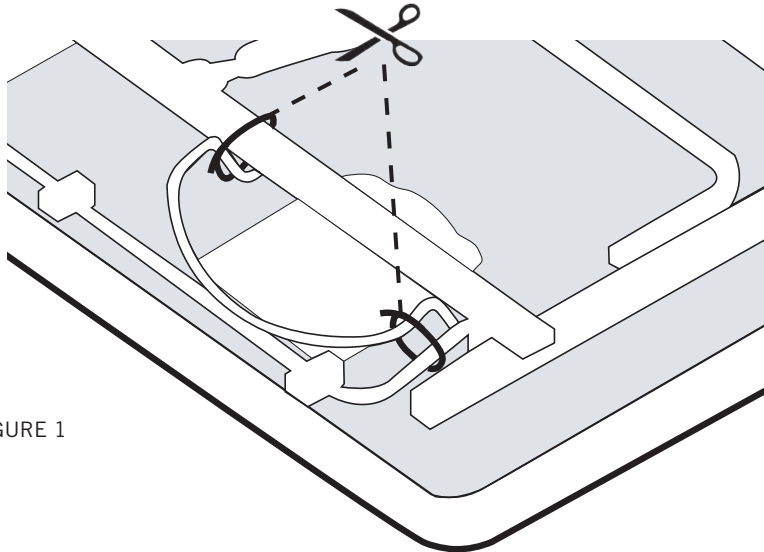

FIGURE 1
Cut zip-tie from electrical power supply. Cut (2) zip-ties and remove mattress retainer (set aside) (FIGURE 1).